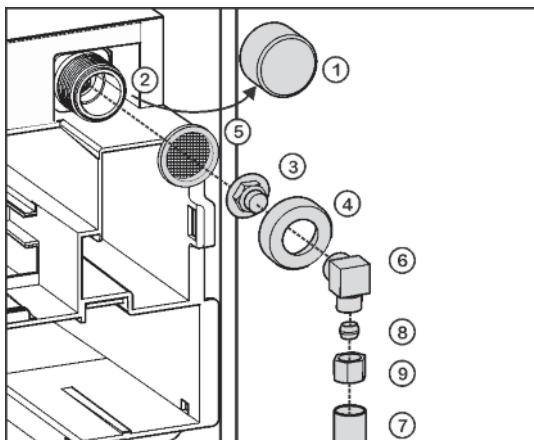

Fig. 32
- ▶ Remove the cap *Fig. 32 (1)* from the solenoid valve *Fig. 32 (2)*.
- ▶ Insert the coupler *Fig. 32 (3)* in the union nut *Fig. 32 (4)*.
- ▶ Insert the water filter *Fig. 32 (5)* with the recess pointing down towards the coupler *Fig. 32 (3)*.
- ▶ Lock the union nut *Fig. 32 (4)* onto the solenoid valve *Fig. 32 (2)* and tighten.
- ▶ To turn the water connection 90°, tighten the elbow connector *Fig. 32 (6)* if necessary.
- ▶ Connect the water supply *Fig. 32 (7)* (e.g. copper) with the aid of the clamp ring *Fig. 32 (8)* and nut *Fig. 32 (9)* to the coupler *Fig. 32 (3)* or elbow connector *Fig. 32 (6)*.